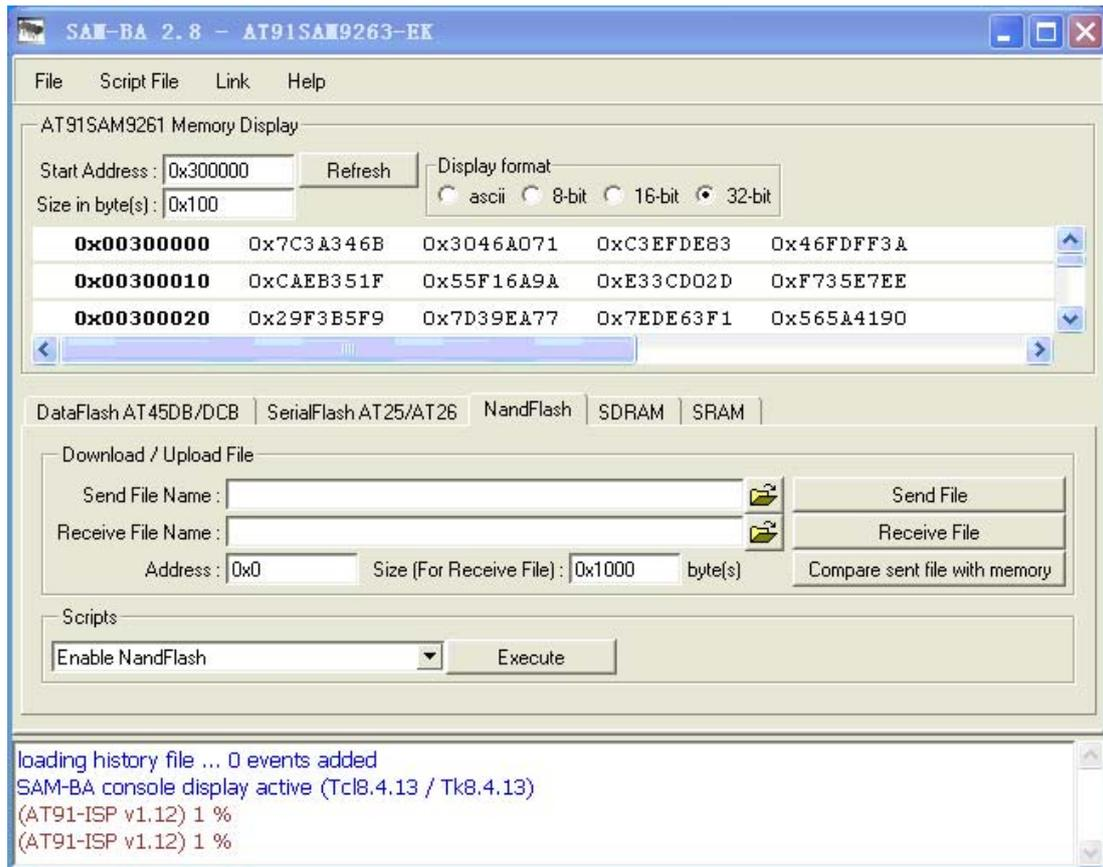
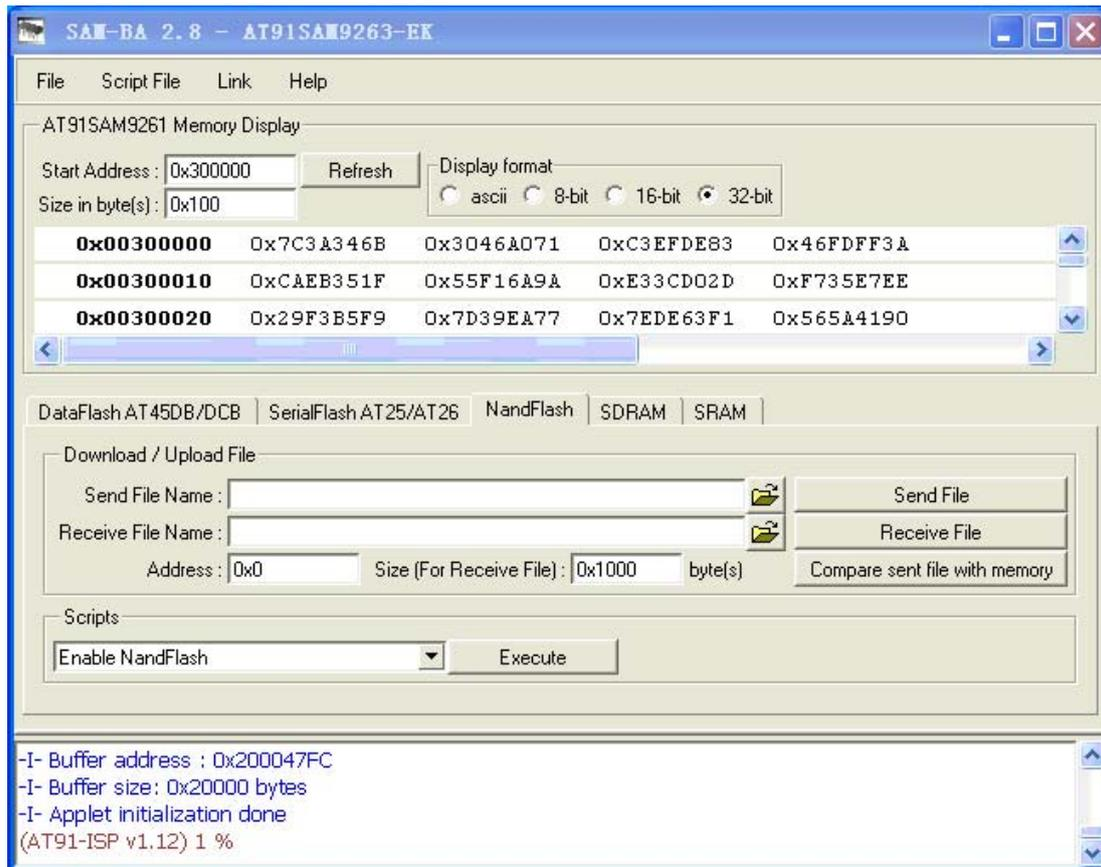

Figure 3.16
Figure 3.17
1. Put the Jump J24 in open status. As shown in Figure 3.16, select `NandFlash` header in SAM-BA v2.8.
- As shown in Figure 3.16 in the Scripts pulldown menu of SAM-BA v2.8, select Enable NandFlash, and click Execute button in the column Scripts to enable NAND flash on SBC6300X main board. After the Enable operation is successful, the interface as shown in Figure 3.17 will appear: